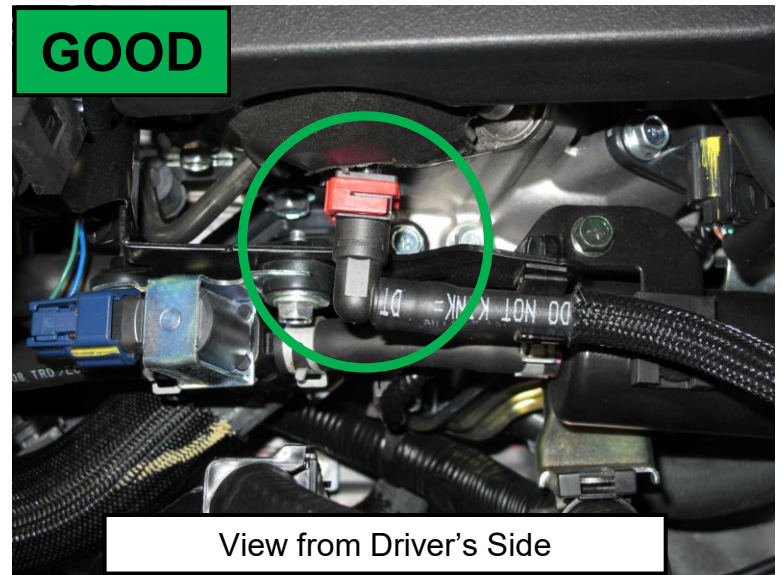

Figure 6
- If the "**Fuel Feed Tube Clip**" condition is secured similar to Figure 6 "**GOOD**" submit a warranty claim using OP Code PC6690 (See claims info), and release the vehicle. No further repair is needed.